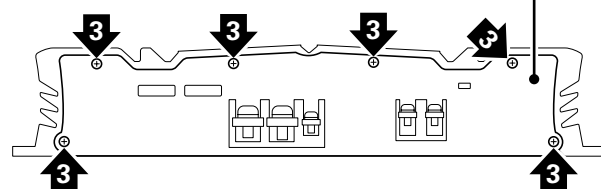

Fig. 2
● Removing the Panel (Fig. 2)
1) Secure the RCA-side Panel on the Heat Sink with screws. (Fig. 2)
4) Secure the RCA-side Panel and the RCA Holder with screws. (Fig. 2)
6) Secure the Panel for the Power Terminal side in place with screws. (Fig. 2)